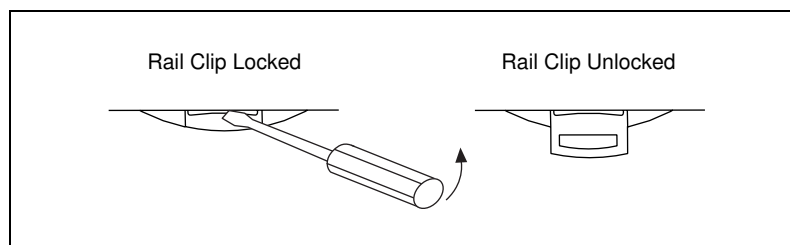

Figure 2-1. DIN Rail Clip
| Figure 2-1. | DIN Rail Clip | 2-1 |
1. Use a flat-bladed screwdriver to open the DIN rail clip to the unlocked position, as shown in Figure 2-1.
- Slide the FP-1600 to the desired position along the DIN rail. After the FP-1600 is in position, lock it to the DIN rail by pushing the rail clip to the locked position, as shown in Figure 2-1.
1. Use a flat-bladed screwdriver to open the rail clip to the unlocked position, as shown in Figure 2-1.